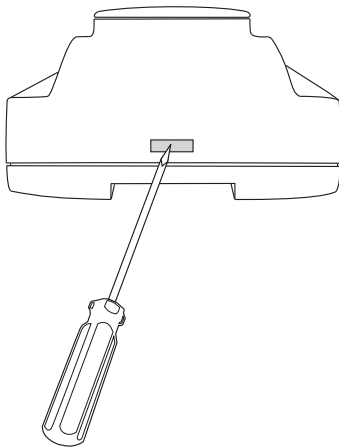

Figure 10-1 Removing the top of the casing.
2. Remove the top of the casing by pressing the two tabs on each side of the casing and then lift up the top of the casing carefully. See *Figure 10-1*